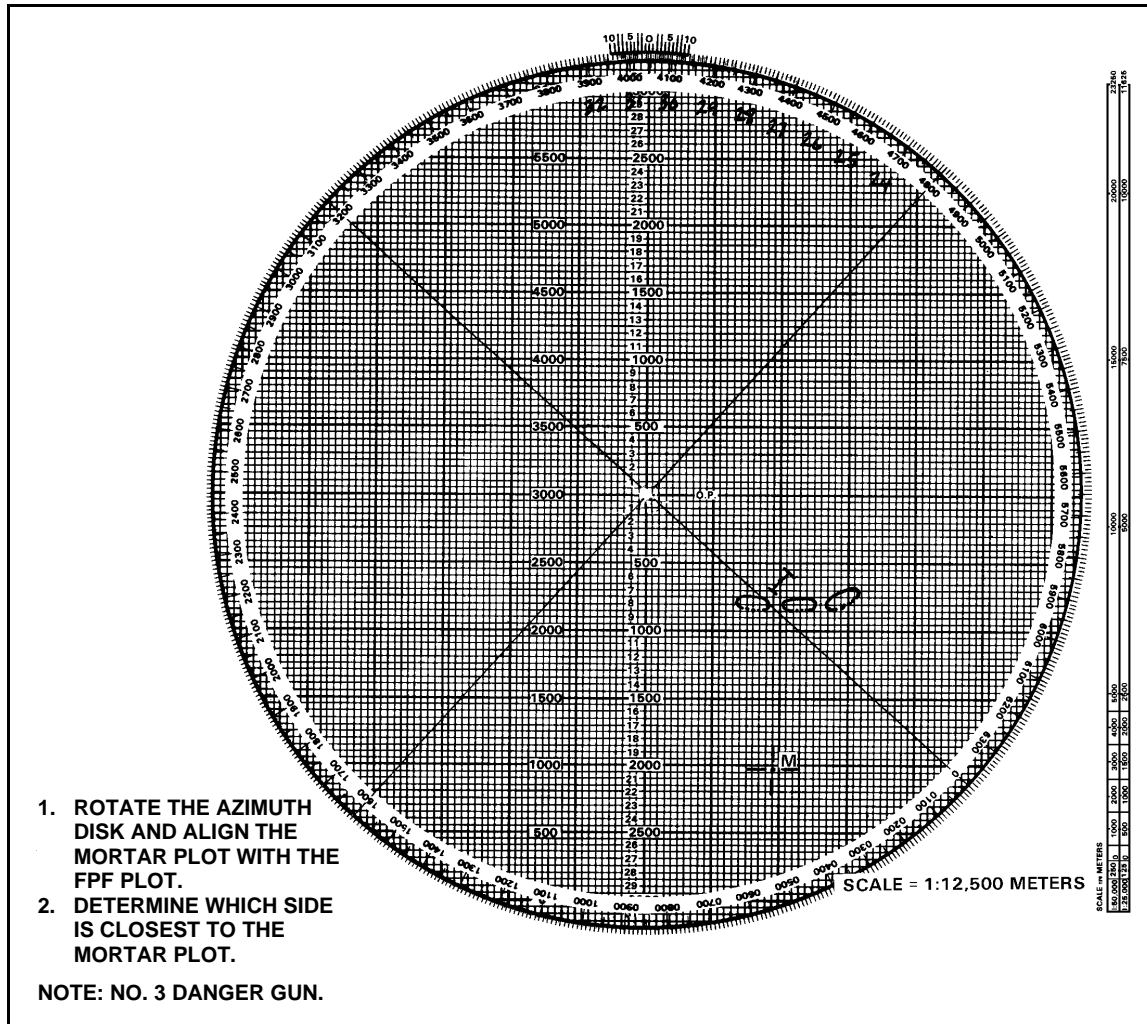

Figure 14-16. Determination of danger mortar.
(2) After drawing the FPF line, the computer rotates the azimuth disk and aligns the mortar plot with the FPF plot to see which side of the line is closest to the friendly troops (Figure 14-16).